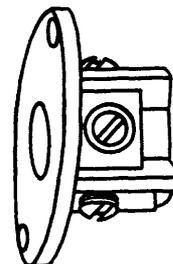
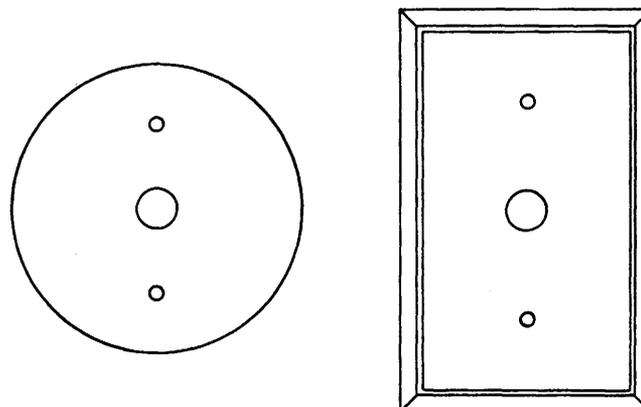

Figure 15. Number 47B Connecting Block.
Figure 16. Number 16C and 19C Outlet Plates for Use with Number 47B Connecting Blocks.
4.06 The number 47B connecting block (Figure 15) was manufactured by WECO in ivory, brown, and later in blue-beige. The latter color was then discontinued in favor of olive-gray. An equivalent block is manufactured both by Suttle and by Communication Apparatus in all four colors. This block has an approximately 3/8-inch oval hole for cord entry, four terminals designated R, G, Y and B, and is used with the number 16C and number 19C outlet plates, which have a circular hole of about the same size for cord entry (Figure 16). The plates are manufactured in the same colors as the block.